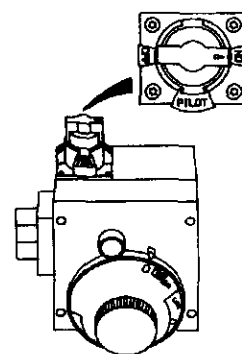

Figure 8
11. At arms length away, turn gas control knob counter-clockwise (↺) to the full "ON" position. **Warning do not use gas control knob to regulate gas flow.** (Figure 8, page 20)